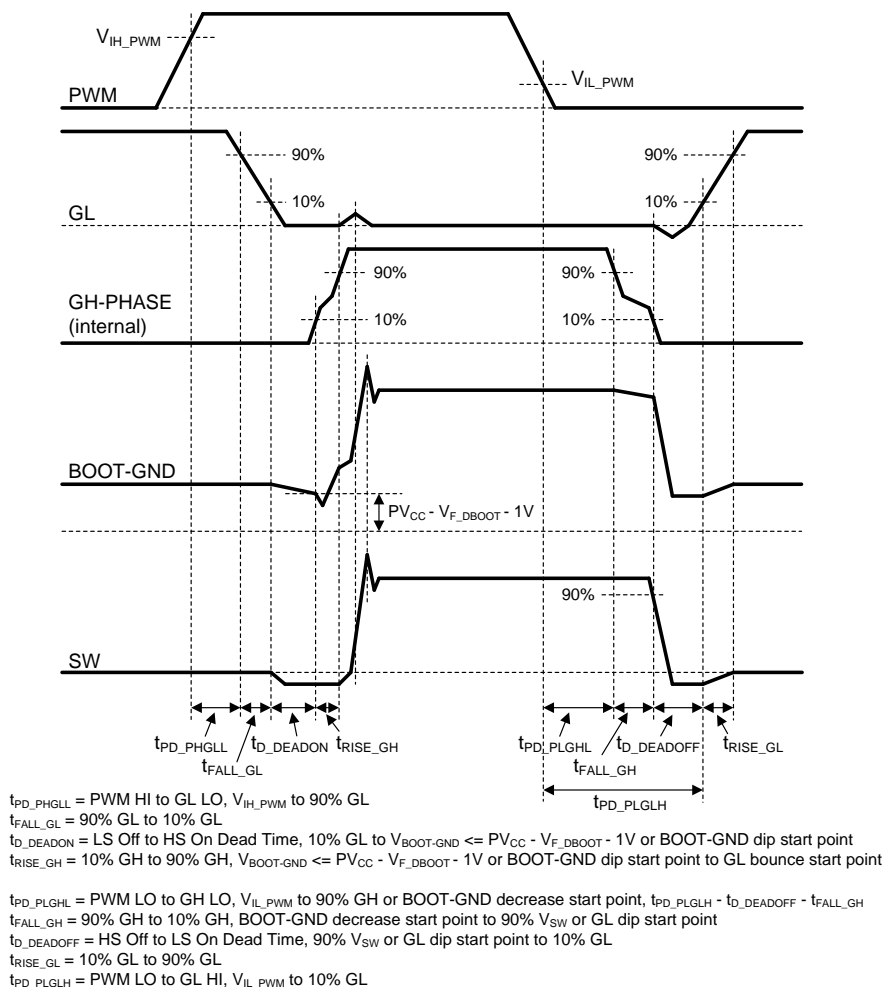

Figure 23. PWM Timing Diagram
3. The timing diagram in Figure 23 assumes very slow ramp on PWM.